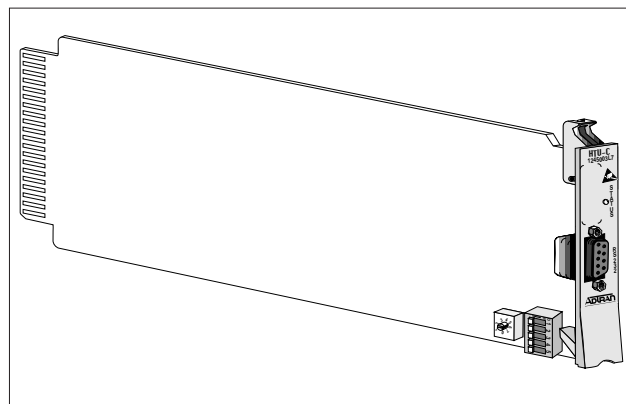

Figure 1. ADTRAN DDM PLUS HTU-C
| Figure 1. ADTRAN DDM Plus HTU-C..... | 1 |
The ADTRAN DDM Plus HTU-C, part number 1245003L7, is the central office (CO) unit used to deploy a repeaterless T1 circuit using 4-wire metallic facilities. The unit occupies one slot in an AT&T DDM Plus DS1 Extension shelf. The unit is illustrated in Figure 1.